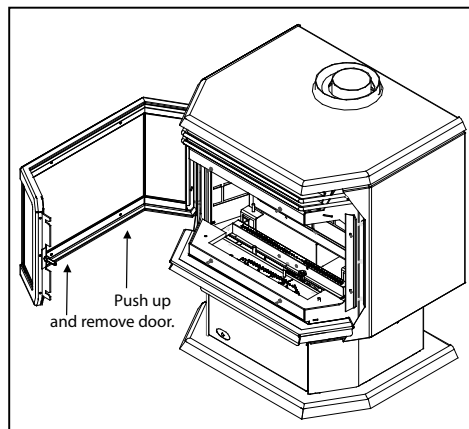

Figure 20: Removing the Door.
3. If the door must be removed open the door and lift the door pins out of the hinges (see figure 20).